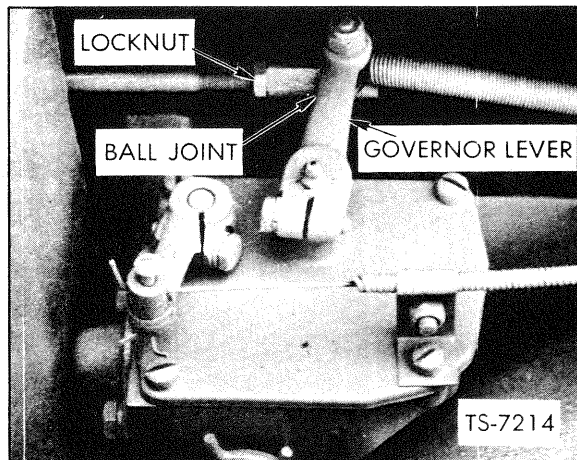

Fig. 11 Accelerator Linkage at the Governor Housing
3. Rotate the governor throttle control lever to the extreme forward (full throttle) position and adjust the ball joint to obtain a slip fit in the governor throttle lever just before the accelerator bottoms. If a slip fit cannot be obtained, adjust the clevis and ball joints at the accelerator crank arm. See Figs. 11 and 12.